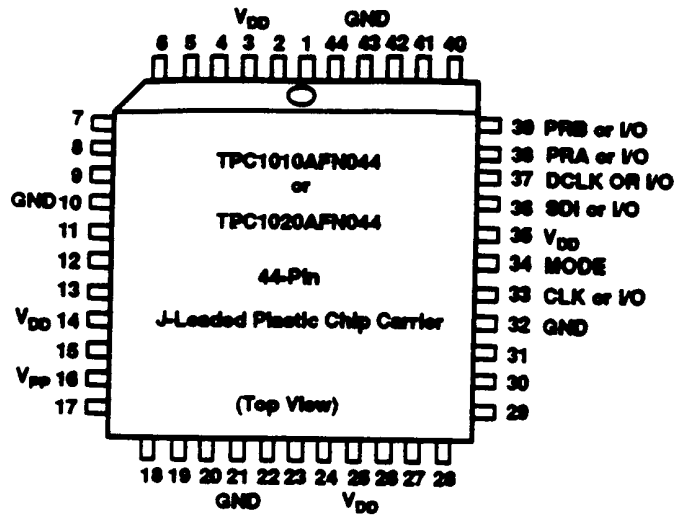

Figure 7. TPC1010A and TPC1020A 44-Pin PLCC Pin Assignment
- Pin assignments for the TPC10 Series FPGAs are diagrammed in Figures 7 through 10.